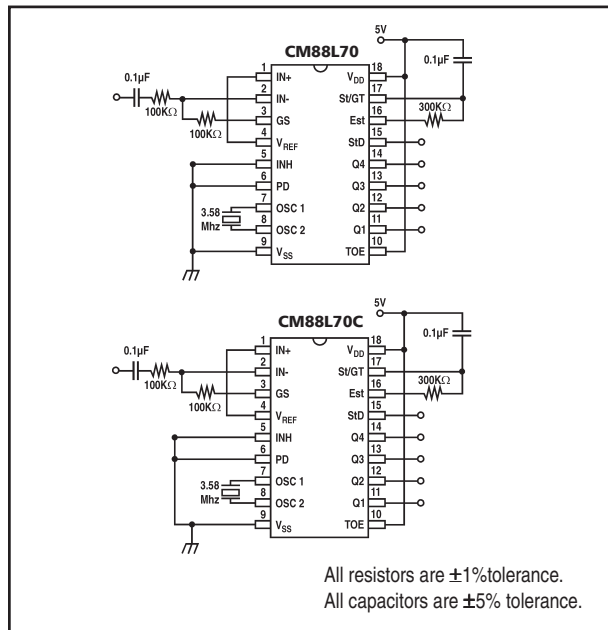

Figure 1. Single Ended Input Configuration
| Min Tone Duration Accept | t _{REC} | | | 40 | mS | (User Adjustable) Times shown are obtained with circuit in Fig. 1) |
14. Referenced to Figure 1. Input DTMF tone level at -28 dBm.
The value of t_{DP} is a parameter of the device and t_{REC} is the minimum signal duration to be recognized by the receiver. A value for C of 0.1 uF is recommended for most applications, leaving R to be selected by the designer. For example, a suitable value of R for a t_{REC} of 40 milliseconds would be 300K. A typical circuit using this steering configuration is shown in Figure 1. The timing requirements for most telecommunication applications are satisfied with this circuit. Different steering arrangements may be used to select independently the guardtimes for tone-present (t_{GTP}) and tone absent (t_{GTA}). This may be necessary to meet system specifications which place both accept and reject limits on both tone duration and interdigit pause.
In a single-ended configuration, the input pins are connected as shown in Figure 1, with the op-amp connected for unity gain and VREF biasing the input at 1/2 V_{DD}. Figure 6 shows the differential configuration, which permits the adjustment of gain with the feedback resistor R5.